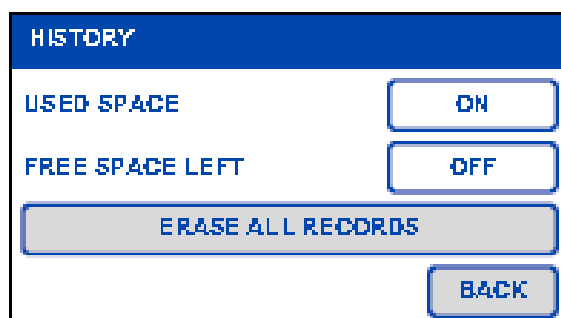

Figure V-38: Purge File from History Screen
8. Alternatively, to clear the data storage from the FP-24 5G without previously saving, press [ADMIN TOOLS] from the main menu, followed by [HISTORY]. On the History Screen, press [ERASE ALL RECORDS] to purge the data file \(Figure V-38\).